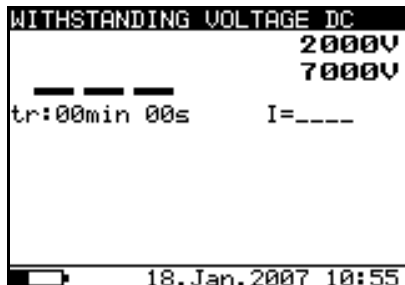

Fig. 43: Initial screen withstanding test
2. Select with arrow keys **▼** or **▲** the item "WITHSTANDING VOLTAGE DC" on main menu and confirm with **SELECT** key. The screen of Fig. 43 is shown by the meter
2. Select with arrow keys ▼ or ▲ the item "WITHSTANDING VOLTAGE DC" on main menu and confirm with **SELECT** key. The screen of Fig. 43 is shown by the meter